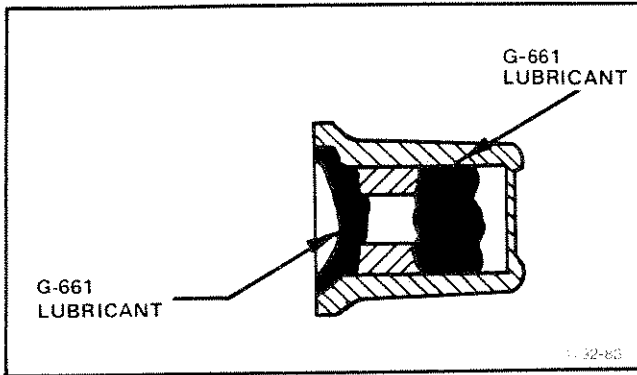

Fig. 5-30. Lubrication of POSITION control knob.
**27. Installation of the POSITION knob and the FINE POSITION knob (see Figs. 5-30 and 5-31)**
1. Apply G-661 lubricant to the POSITION knob as shown in Fig. 5-30.